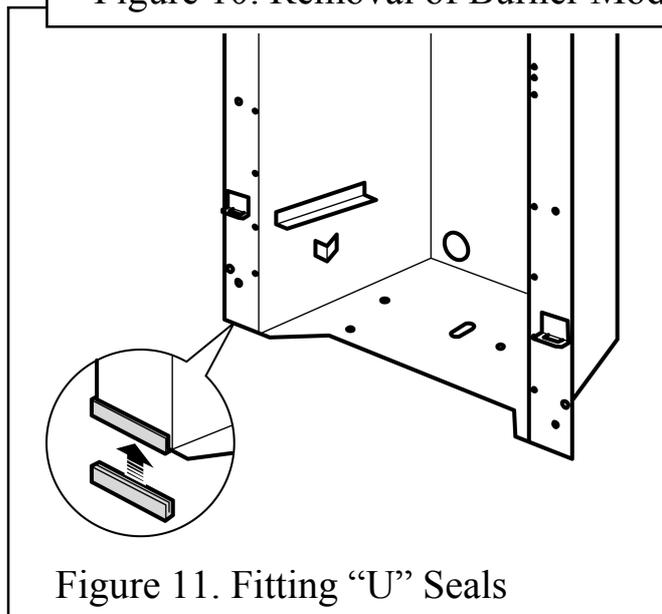

Figure 11. Fitting “U” Seals
10. Fit the two “U” section seals to the bottom edges of the hotbox side flanges. See figure 11.